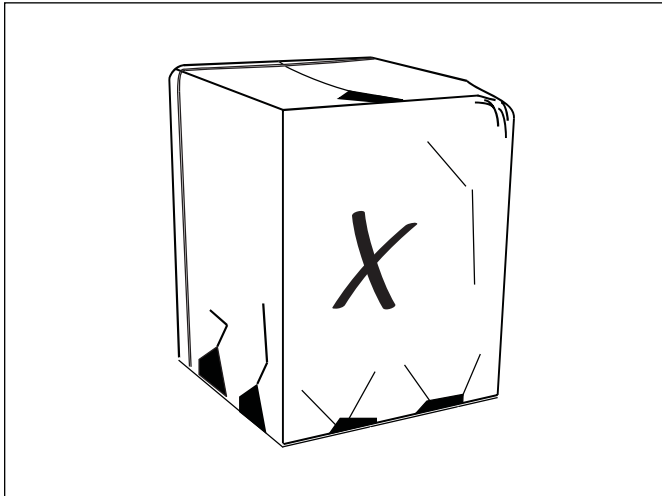

Figure 6
- ▶ Check for damage and report promptly to the carrier any damage found to the unit (Fig. 6).